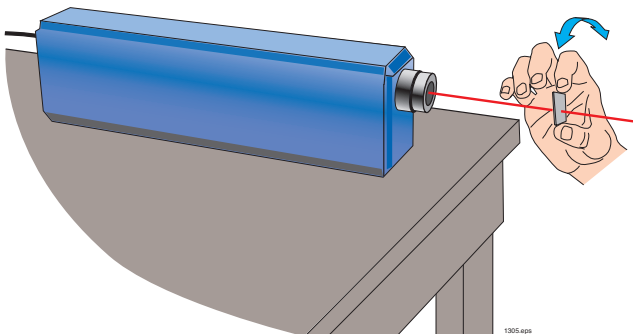

Figure 14. Side view showing proper position of the polarization filter.
5. Depress the ON/OFF switch (SW) on the control scattering tankel of the laser until it clicks into the ON position. (The switch should be slightly depressed.)
7. Hold the polarization filter in the path of the laser beam between the laser and the beamstop. Hold the filter stationary, at a 90° degree angle to the beam, as shown in Figure 14.
8. Observe the beam pattern on the beam stop for about 60 seconds. If the beam varies in brightness, your laser is randomly polarized. If the brightness is constant, your laser is either linearly or uniformly polarized. In the latter case, rotate the polarization filter a complete 360 degrees, as shown in Figure 14.